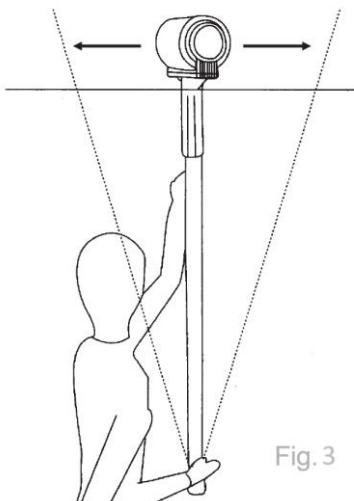

Fig. 3
4. When using the pole, always ensure you are positioned directly under the weight of the roller (Fig.3).